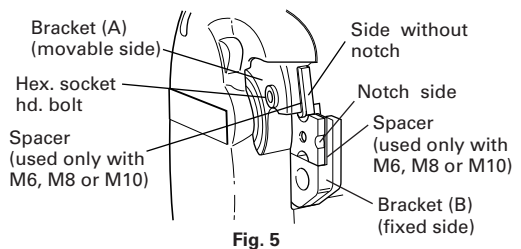

Fig. 5
- (3) Use the accessory hexagonal wrench to insure that the hex. socket hd. bolt for attaching the cutter is securely tightened (**Fig. 5**). Using the equipment while the bolt is loose could cause damage to the main unit and cutter.
- (4) Depending on the size of the studs it may be necessary to attach special spacers to the cutter.
- ① When using the M10, M8 or M6 cutter
Check and confirm that the accessory M6, M8 or M10 spacers are correctly inserted respectively between bracket (A) and the cutter and bracket (B) and the cutter (**Fig. 5**).
- ② There is directionality for cutter attachment in order to change the position of the edge. Check that the cutter has been attached so that the side without the notch on the cutter can be seen on bracket (A) (movable side) when seen from the main unit viewed from the front or that the notch on the cutter surface on bracket (B) (fixed side) can be seen (Figs. 5 and 18).